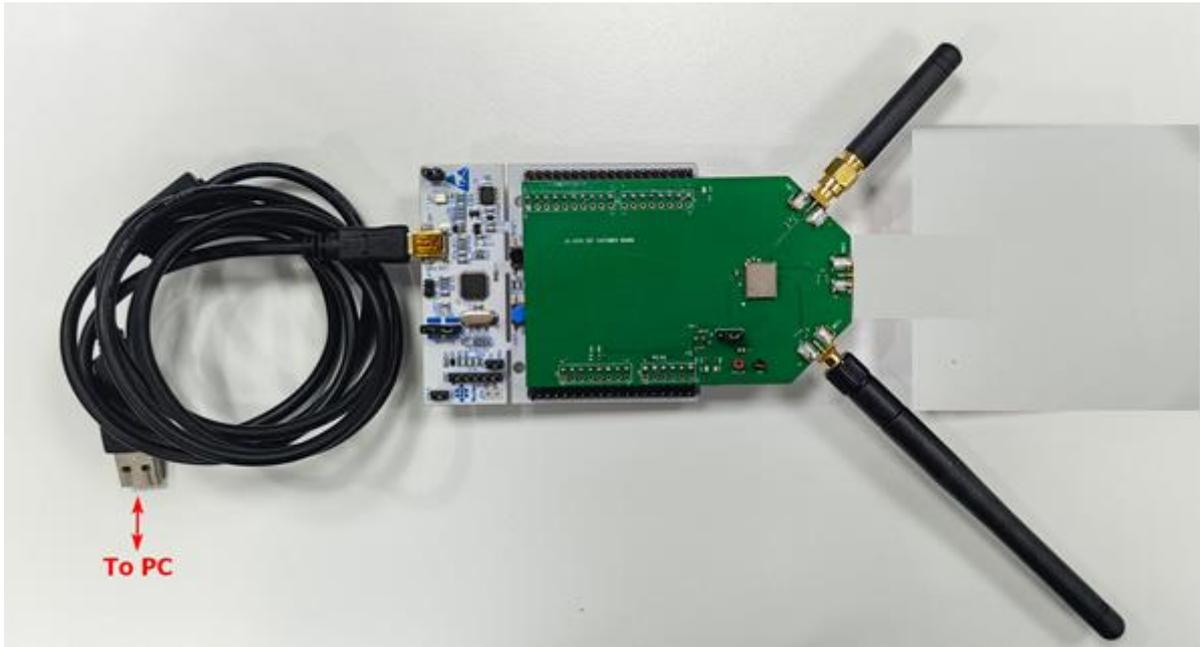

Figure 5: Assembly antennas and connect platform to PC
STEP2: Connect the NUCLEO-L476RG to PC by Mini USB interface cable and assembly the antennas on the EVB as showed in figure 5.